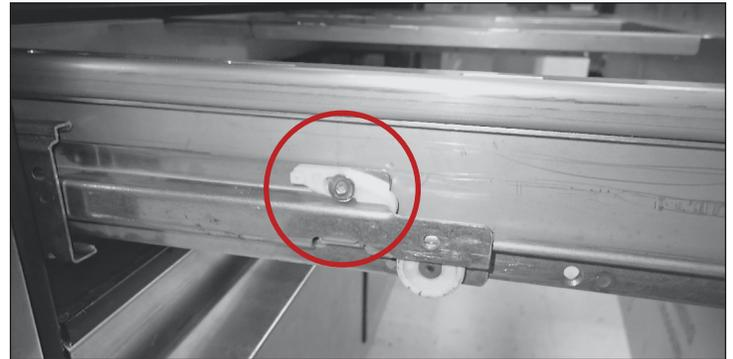

Fig. 1. Drawer retainer location. Retainer is engaged.
3. Press the plastic drawer retainer down and towards the back of the appliance. See fig. 1